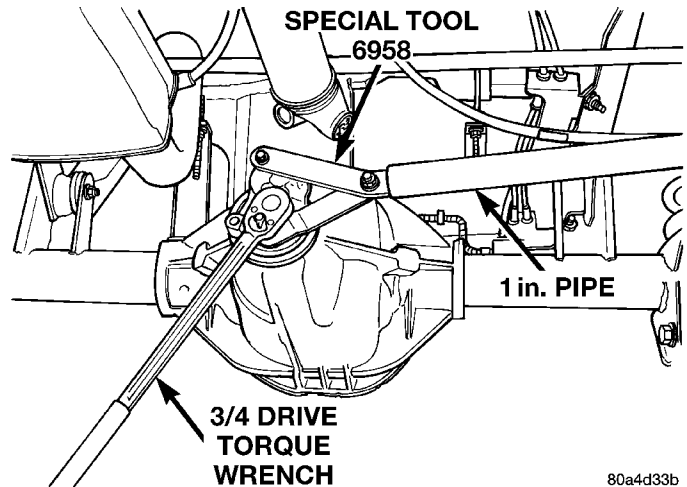

Fig. 49 Tightening Pinion Nut
(10) Using yoke holder 6958, a short length of 1 in. pipe, and a torque wrench set at 380 N·m (280 ft. lbs.), crush collapsible spacer until bearing end play is taken up (Fig. 49).